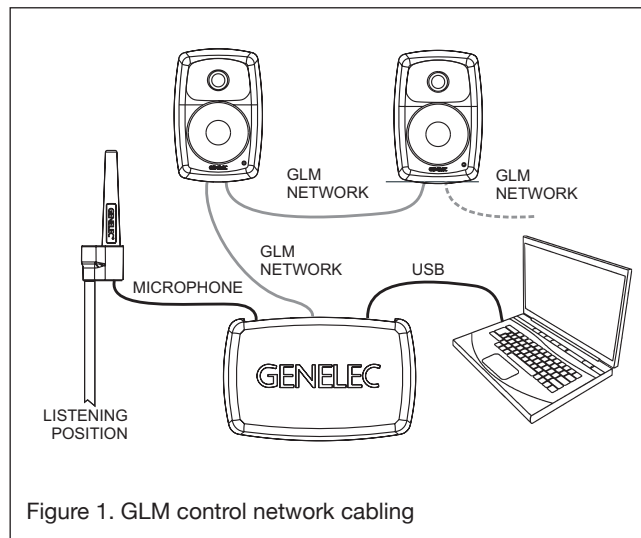

Figure 1. GLM control network cabling
- Connect a CAT5 (RJ45) cable between each monitor (and subwoofer) and finally to the control network input of the GLM Adapter device (see Figure 1).